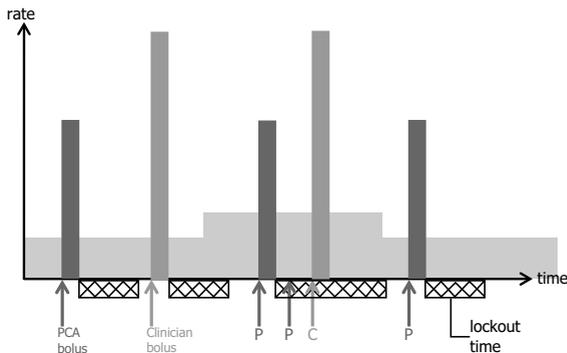

Figure 4.4: PCA bolus + variable rate mode
- PCA bolus + variable rate, see Figure 4.4, page 28